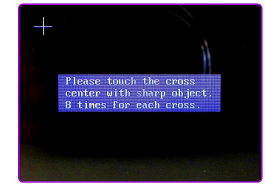

Fig. 9
- 2) Press and hold [P] button in Setup mode to enter touch panel calibration state, as shown in Fig. 9.